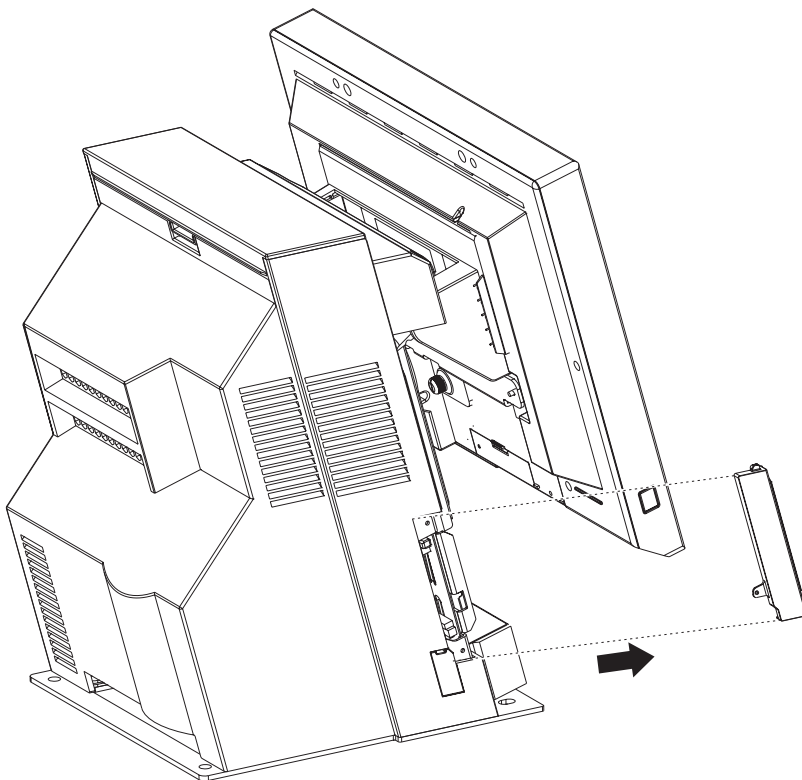

Figure 20. Removing the PC card adapter slot blank
3. Remove the PC card cover as shown in Figure 20.